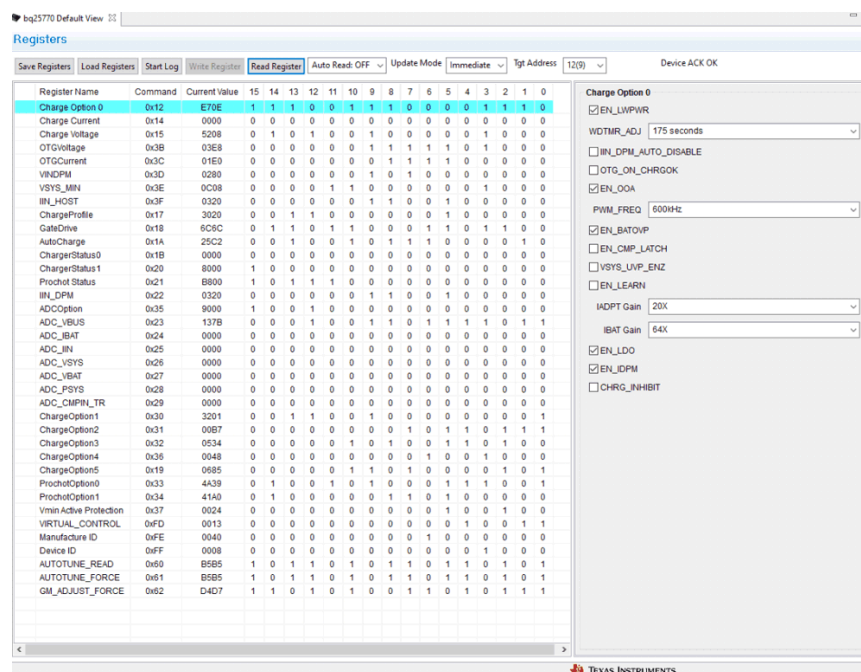

Figure 2-3. Main Window of the BQ2577x Evaluation Software
- c. After selecting the target device, click the *Read Register* button and the interface in Figure 2-3 is presented.